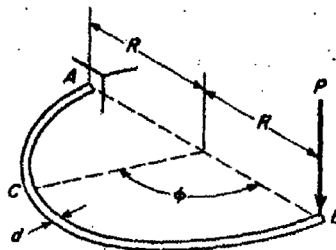

Fig.4 (b)
- (b) A shaft of diameter  $d$ , bent in the form of a semicircle AB of radius  $R$ , is built-in at A and loaded at B by a force  $P$  acting perpendicular to the plane of the ring as shown in Fig.4 (b). Thus any cross-section C of the ring is subjected to both bending and torsion. Assuming that  $d$  is small compared with  $R$  so that the theory of bending of straight bars may be used, find the value of  $\phi$  for which the principal stress  $\sigma$  will be a maximum.